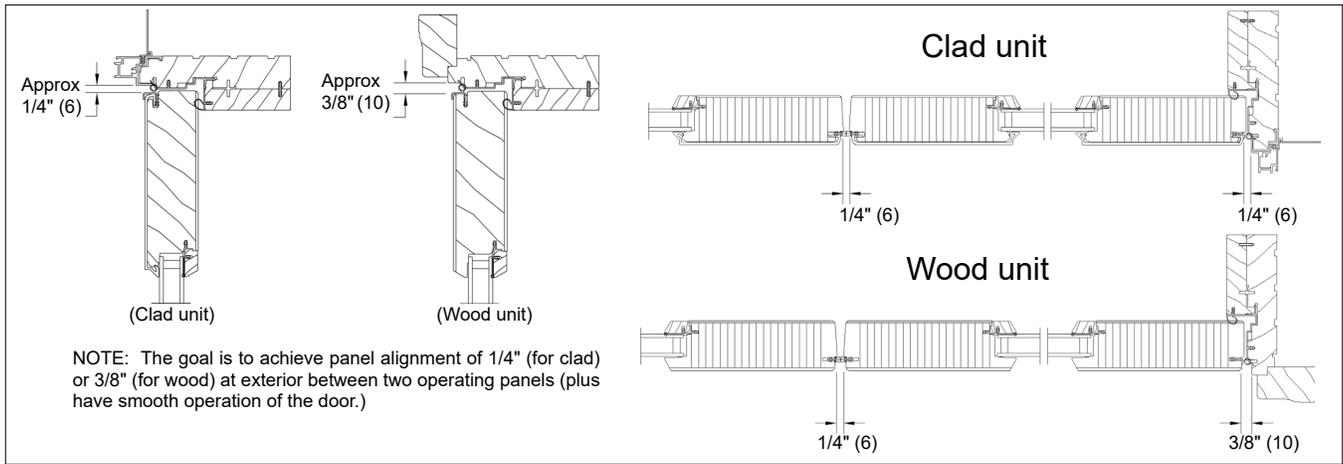

Figure 4 Illustration shows 1 3/4" door but applies to 2 1/4" door as well.
5. Close the panel(s) and check the margin between the active and inactive panel or panel and jambs and head jamb. The door is designed to have an approximate 1/4" (6) gap between the panels (or panel and jambs and head jamb) for clad units or a 3/8" (10) gap for wood units. Correct the margin if needed by adjusting the long screws installed in the previous steps. See figure 4.